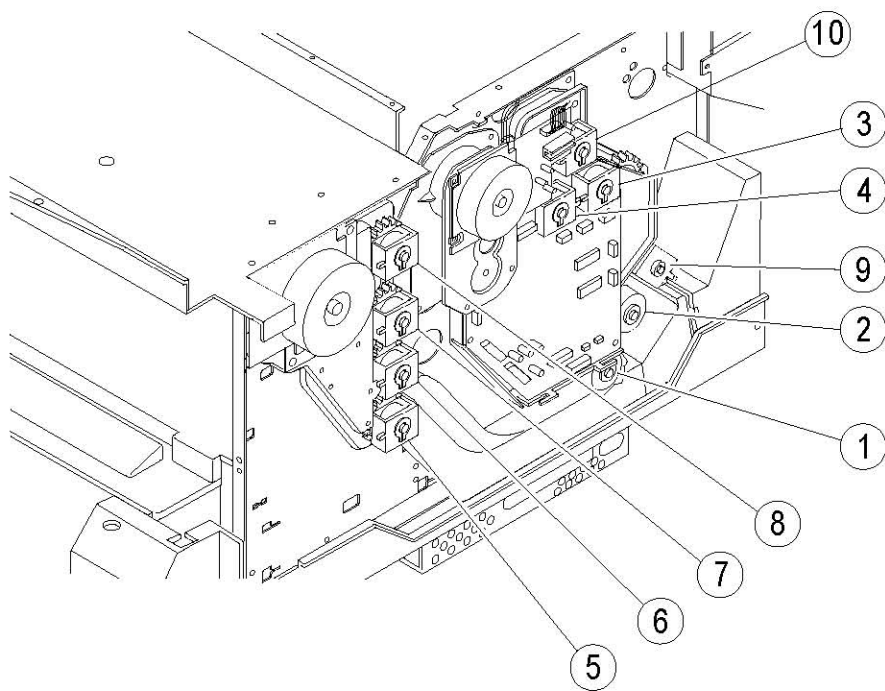

Fig. 4-31
## (3) Clutches (Refer to Fig.4-31.)